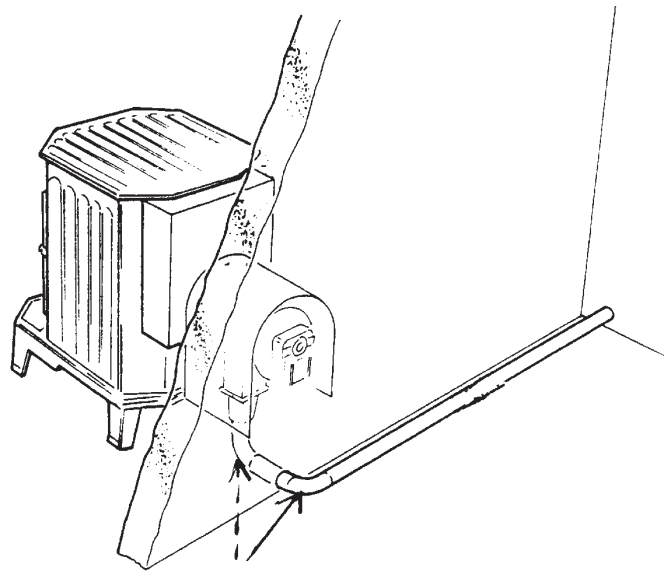

FIG. 6
- B Rear flue outlet with flue running behind wall - *optional* Fig. 6.